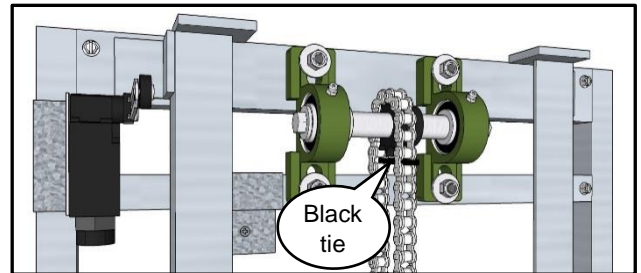

Figure 10
NOTE: Do not cut the black plastic tie! (see Figure 10)
- 7** Cut black plastic tie off. (see Figure 10)